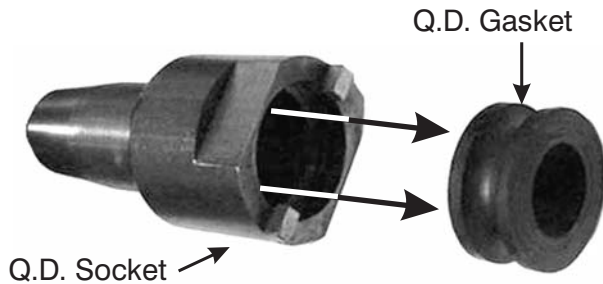

Figure 8-12. Remove Q.D. Gasket
Discard the gasket. Refer to Figure 8-12.
6. To remove the Valve Nut or either of the Hose Sockets from their hoses (shown in Figure 8-12), complete the following procedure: